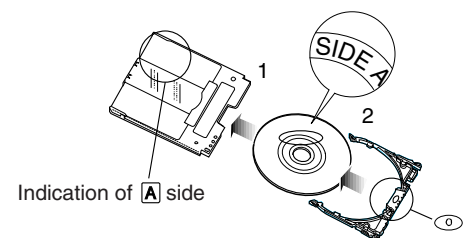

Fig. 6-1d
- 1) Make sure that the side indications on disc and cartridge match, and then insert the disc into cartridge (see Fig. 6-1d).